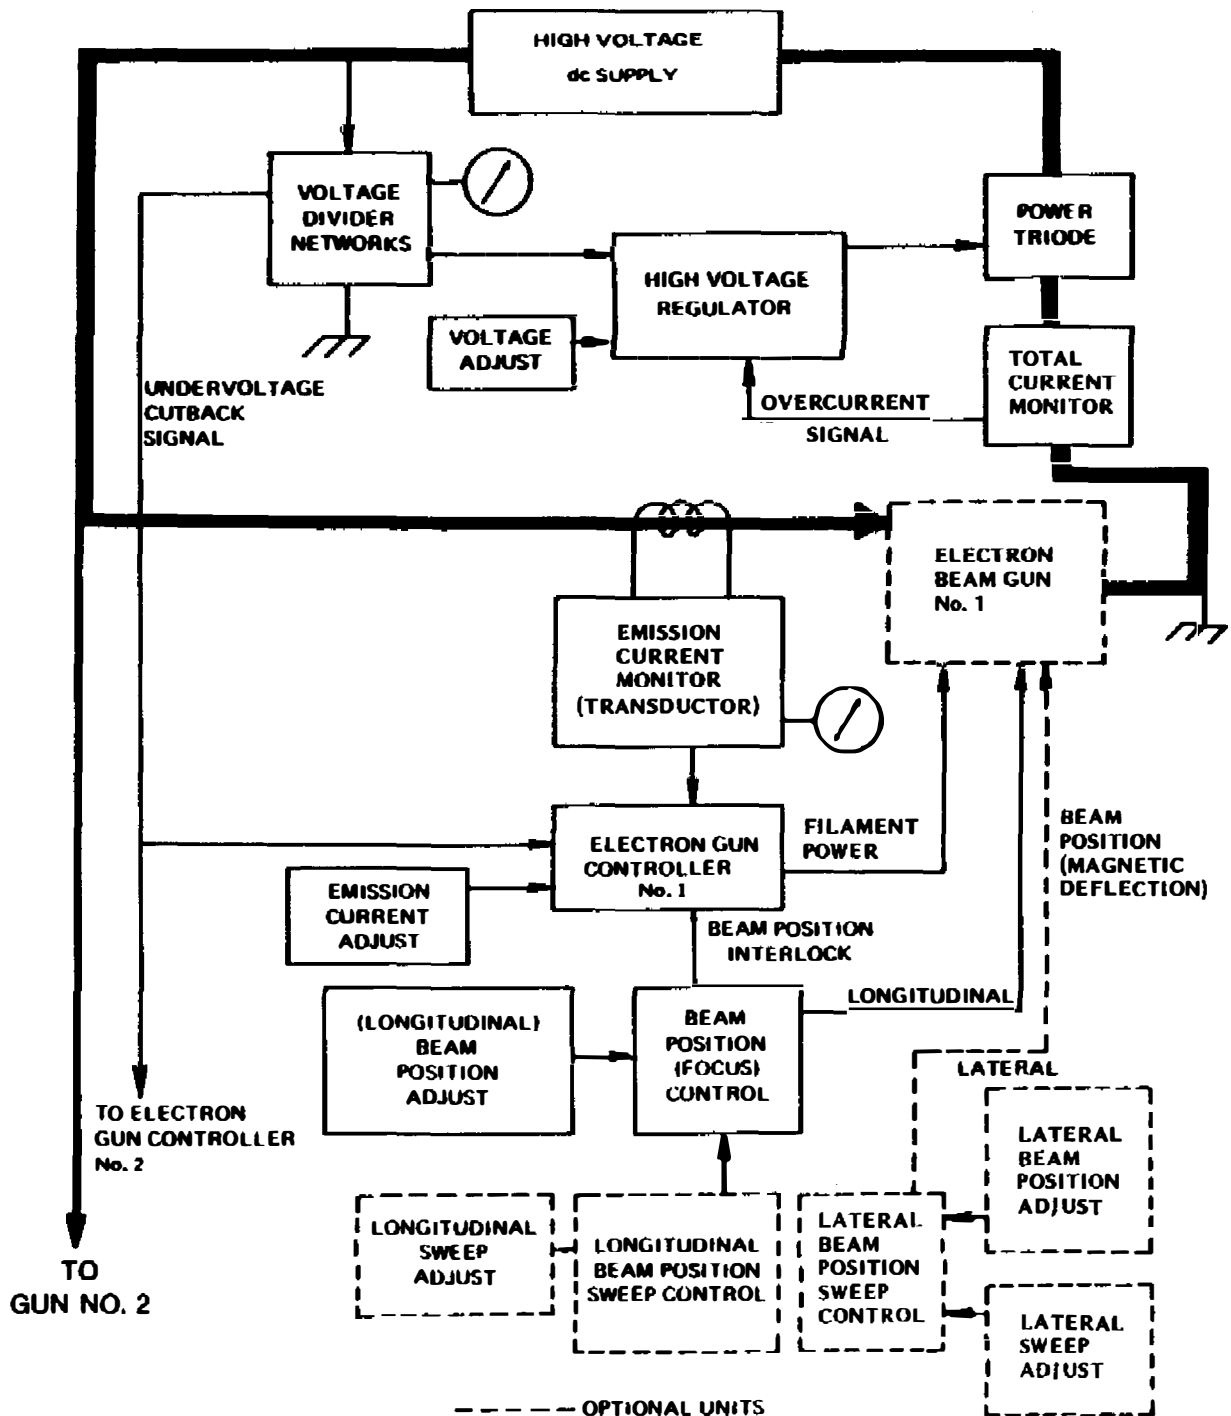

Figure 5-1. CV-8 A and B system block diagram
5.1 OVERALL SYSTEM (Figure 5-1)